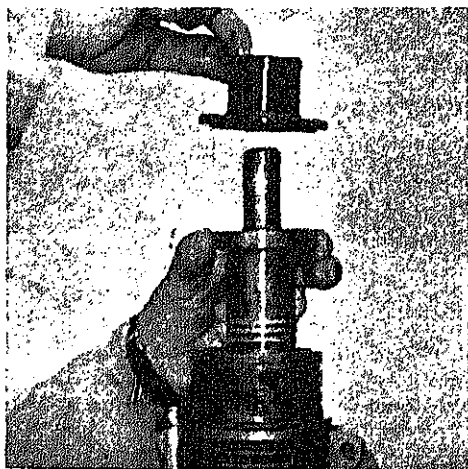

Fig. 16. Intermediate part and striking piston can now be removed.
- ⑨ Intermediate part and striking piston Fig. 16